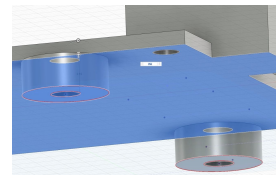

Figure 1.2
- With the profiles selected, use the '**Extrude**' tool to create the pads. In the Extrude dialog box, instead of entering a specific distance, set '**Extend Type**' to '**To Object**', and select the bottom face of the Arduino as the reference (see Figure 1.2).